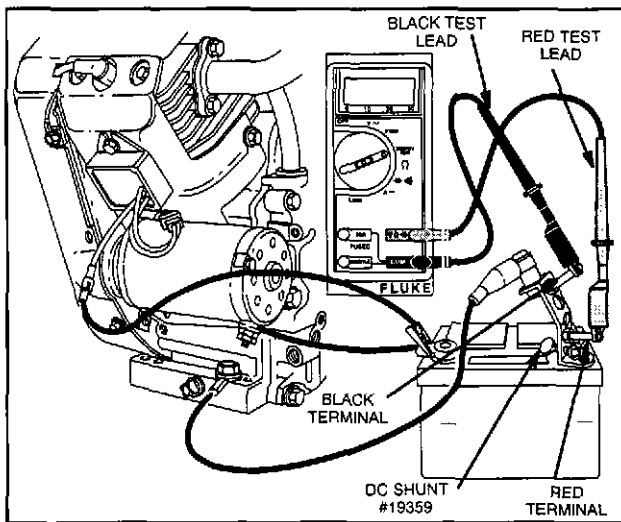

Fig. 24 - Testing Regulator-Rectifier 16 Amp System With DC Shunt
The DC Shunt **must** be installed on the **negative (-)** terminal of the battery, Fig. 24. All connections must be clean and tight for correct amperage readings.
2. Insert RED test lead into  $V\Omega$  receptacle in meter and connect to RED post terminal on shunt, Fig. 24.